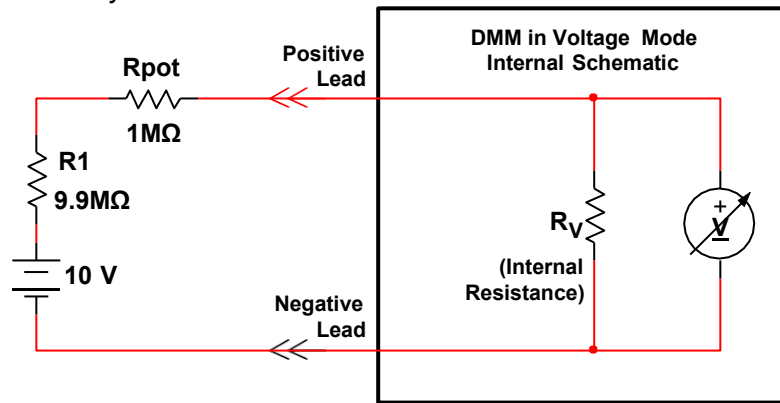

Figure 1.1 – Experimental Setup
1. **Set up** the circuit in **Figure 1.1**. For R_1 , use three $3.3M\Omega$ resistors in series.